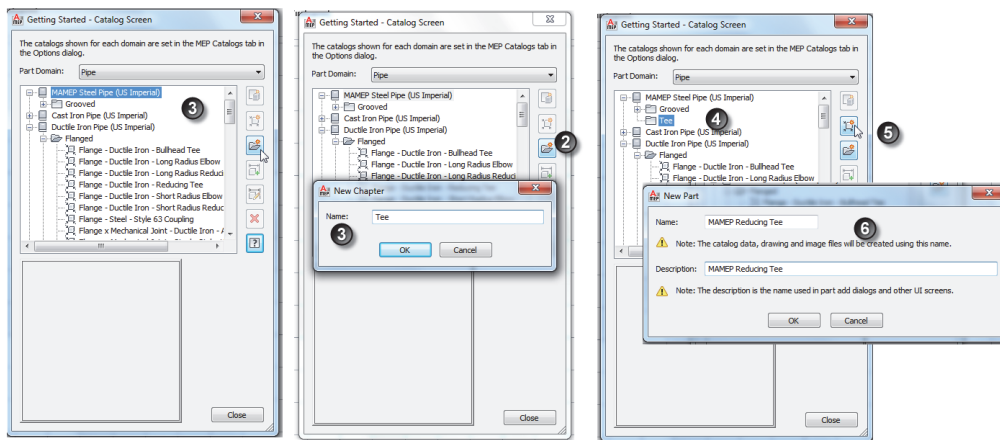

FIGURE 11.3
3. Select *MAMEP Steel Pipe Catalog US Imperial* catalog. (see item 3 in Figure 11.3).
5. In the “New Chapter” dialog, type **Tee**, and then click OK (see items 4 and 5 in Figure 11.3).
8. The description will be added automatically (see Figure 11.3).